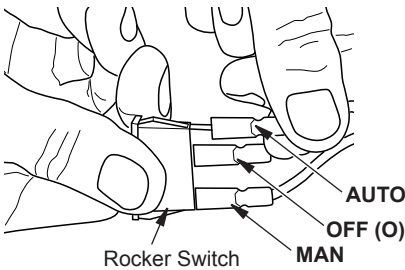

Figure 15 - Connecting Wires to Rocker Switch
5. Connect the AUTO, OFF, MAN wires to the three corresponding male tabs on the rocker switch (see Figure 15).